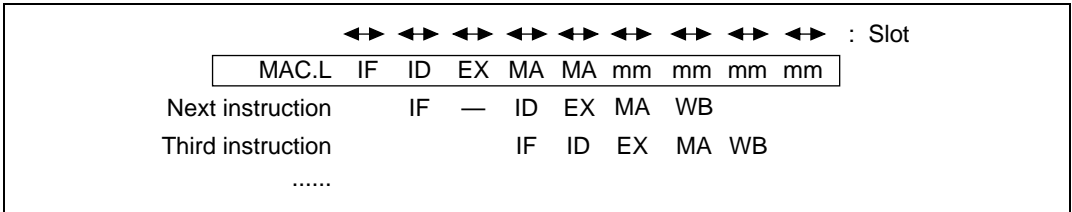

Figure 7.43 Multiply/Accumulate Instruction Pipeline
Operation: The pipeline has nine stages: IF, ID, EX, MA, MA, mm, mm, mm, and mm (figure 7.43). The second MA reads the memory and accesses the multiplier. The mm indicates that the multiplier is operating. The mm operates for four cycles after the final MA ends, regardless of a slot. The ID of the instruction after the MAC.L instruction is stalled for one slot. The two MAs of the MAC.L instruction, when they contend with IF, split the slots as described in Section 7.4, Contention Between Instruction Fetch (IF) and Memory Access (MA).